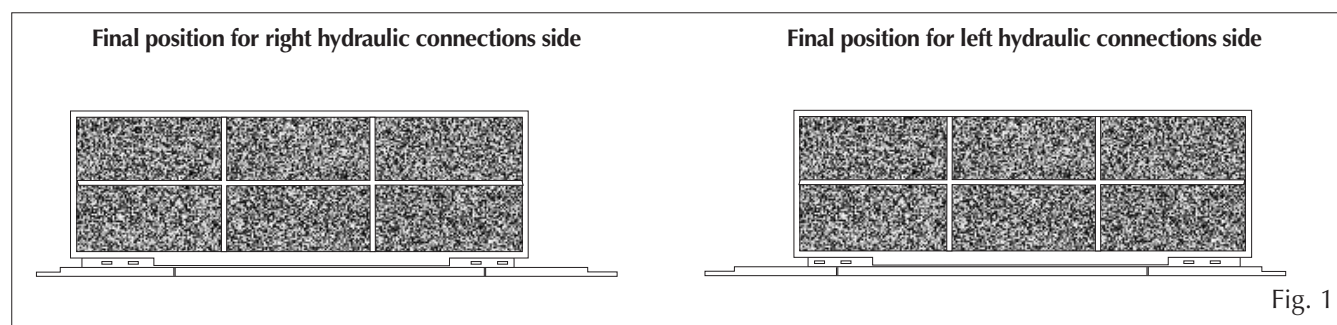
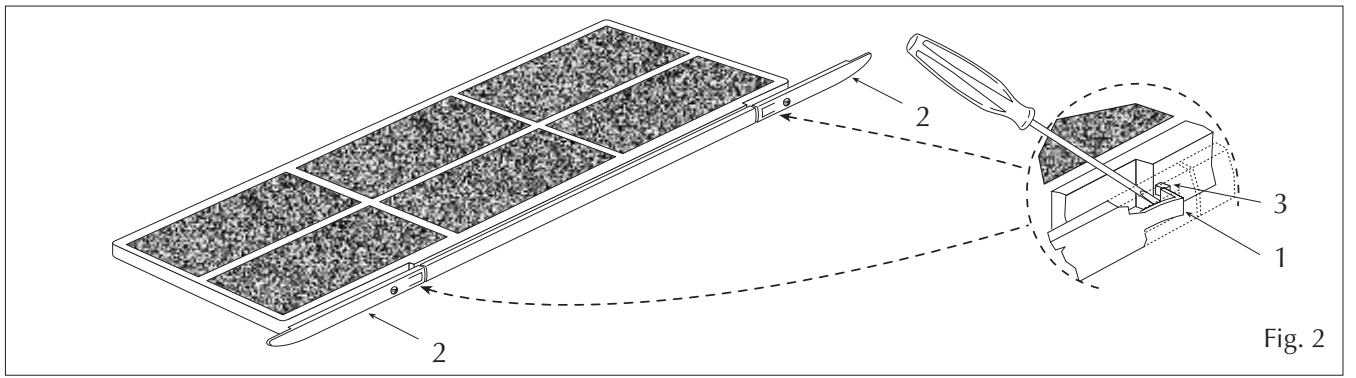

Fig. 1
Fig. 2
- transfer the electrical wirings to the left side through the cable guide (9);
- move the control board (10) and the ground jumper connection (11) to the left side.
- in the FCX-A versions, the air filter must be adapted to the new configuration changing the position of the external support in relation to the filter frame (Fig. 1): press down on the tab (1 Fig. 2) with a screwdriver while moving the external support (2) until the tab is over the tooth (3). Then release the tab so that the position between the support and the filter is as shown in figure 1.